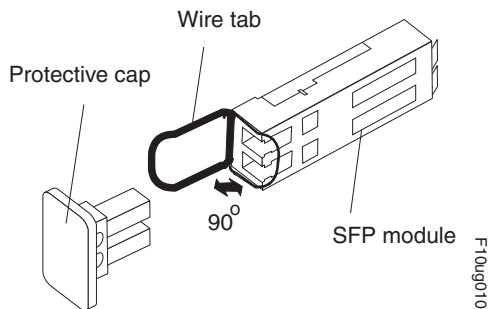

Figure 106. Unlocking the SFP module latch - wire variety
- For SFP modules that contain wire tabs, unlock the SFP module latch by pulling the wire latch outward 90°, as shown in Figure 106 on page 148.